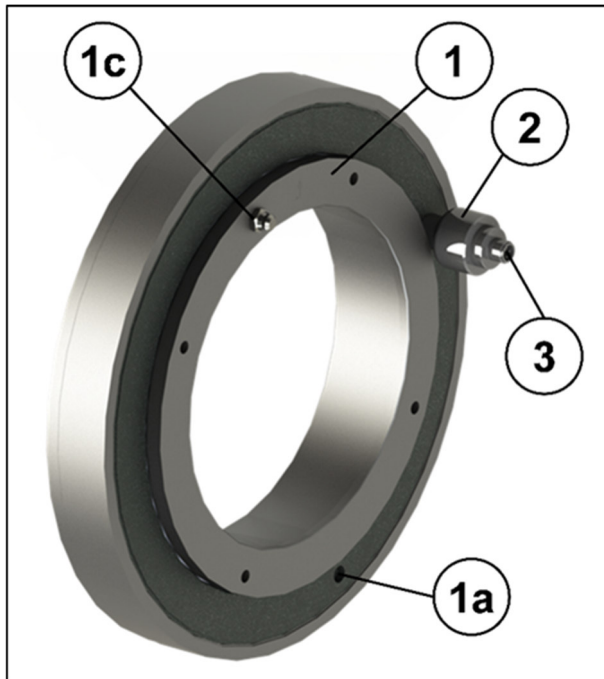

Figure 1: Bearing force transducer
The BROSA Type 0207 Bearing Force Transducer is used to record the bearing force in bearings in or on machines and devices of all kinds. Figure 1 shows the typical layout:
The bearing force transducer (1) is inserted into the correspondingly dimensioned mounting holes (2) of the bearing position and secured against movement (3) using the features mentioned (see Fig. 1). A defined force application surface (4) is located on the inside diameter of the bearing force transducer. The force F applied there is transmitted to the measuring electronics by evaluation of the resulting deformation of the measuring body and output as an electrical signal.